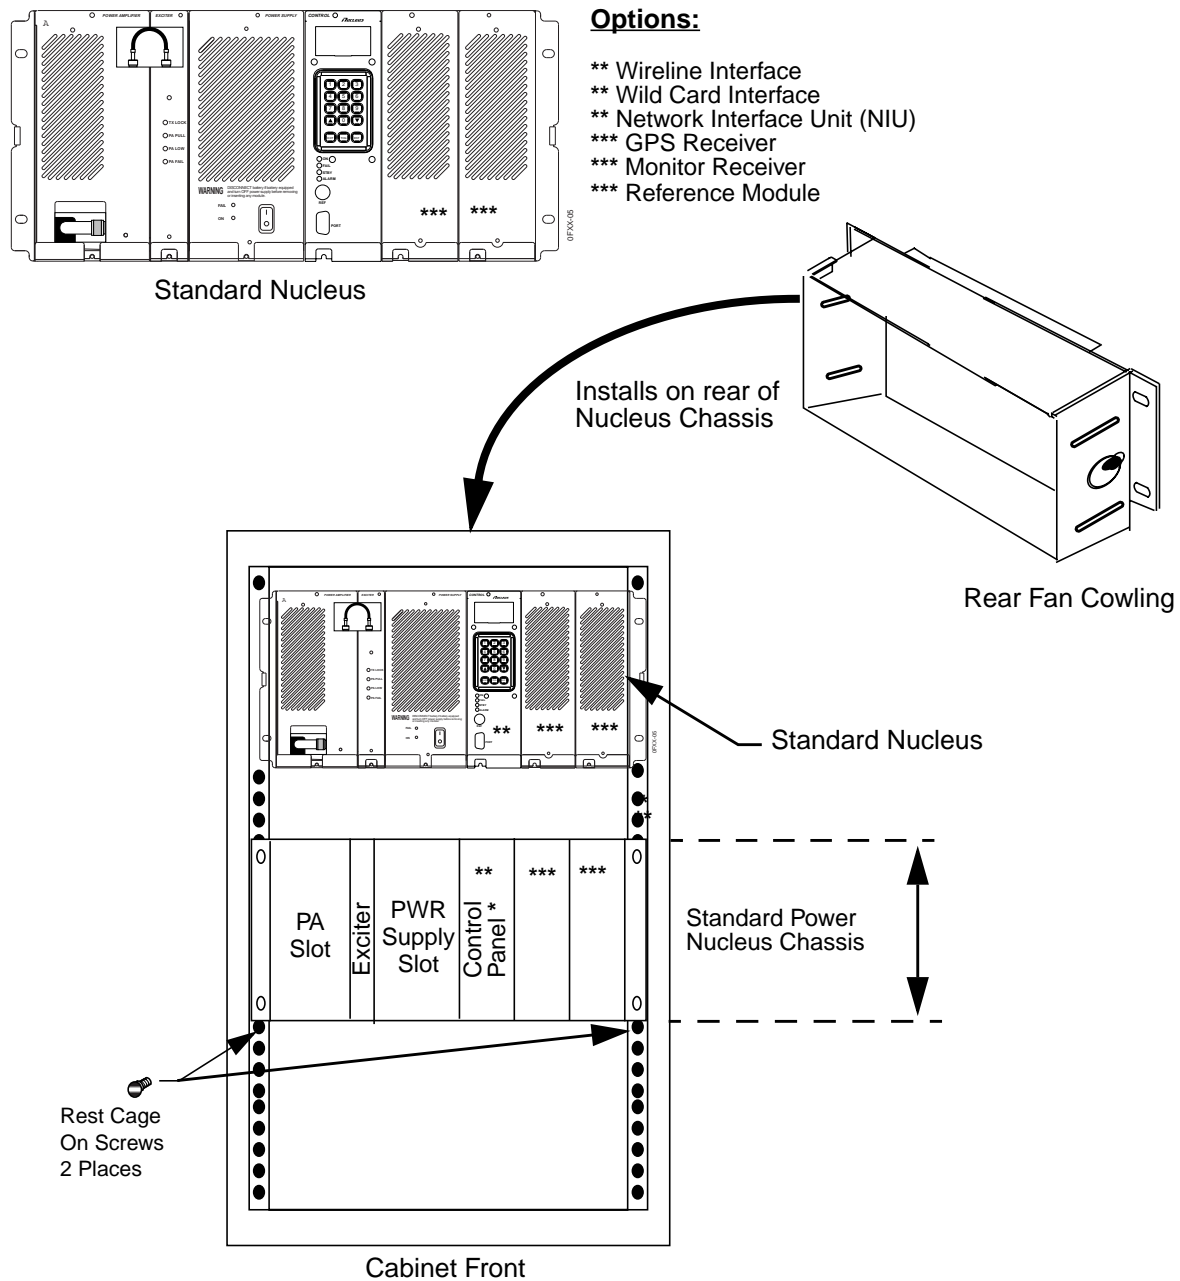

Figure 4-7: Installation of Standard Station in a Cabinet
Install the station in a standard 19 inch cabinet as follows (see Figure 4-7).
2. Lighten the station by removing the power supply, power amplifier (PA) module, fan panel and the rear cowling from the station as follows:
- b. Insert a M6x1.0 tapping screw (supplied) into each front cabinet rail where the station is to be mounted (see Figure 4-7). The screw head is approximately 1/8 in. from the rail surface. These screws assist in positioning and holding the station for mounting.
- c. Carefully lift the station and position the station in the cabinet so it rests on the two screws installed above (see Figure 4-7).
- d. Insert four M6x1.0 tapping screws (two on each side), using a TORX screwdriver and TX 30 bit (see Figure 4-7).
- h. Secure in place with four M6x1.0 tapping screws (two on each side), using a TORX screwdriver and TX 30 bit (see Figure 4-7).